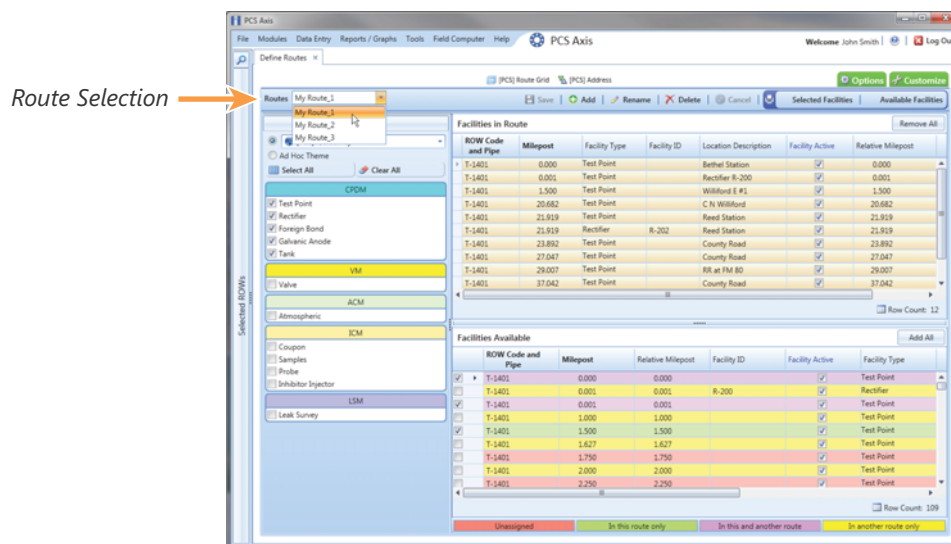

Figure 7-1. Define Routes
- 3 Click the down arrow in **Routes** and select a route in the selection list (Figure 7-1).
- b Click **Data Entry > Define Routes**, then click the down arrow in **Routes** and select a route (Figure 7-1, page 286).